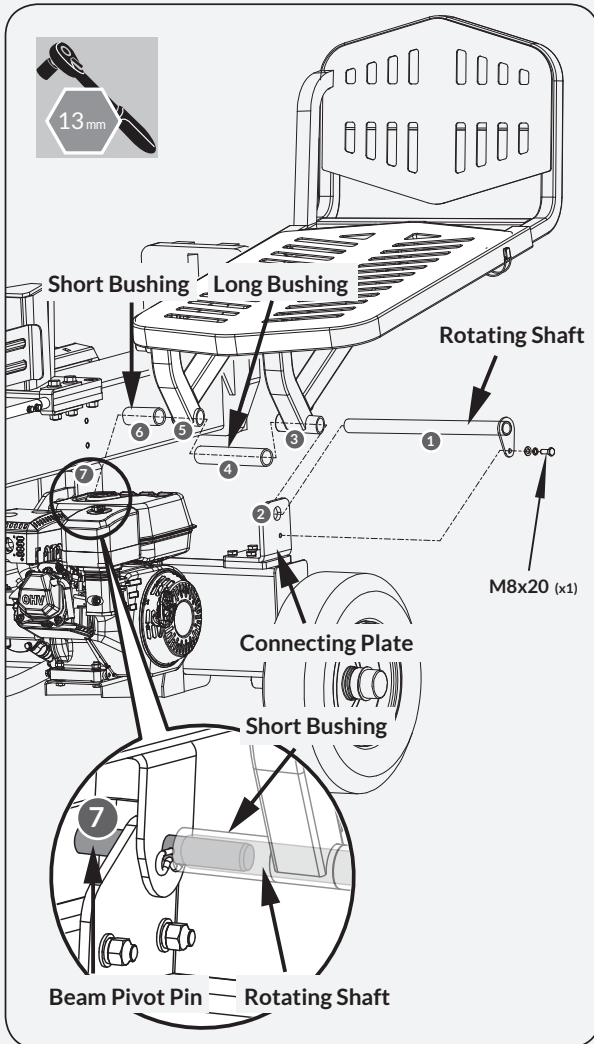

Figure 19b
2. Pass the rotating shaft through the connecting plate, right support leg, long bushing, left support leg, and short bushing in sequence, and finally, wrap it outside the beam pivot pin, then fix it on the connecting plate with M8x20 bolts and washers. (See **Figure 19b**)